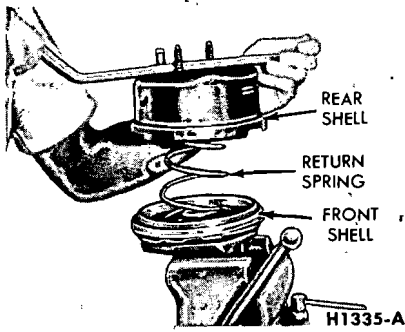

FIG. 37—Separating Booster Shells—Bendix Booster
4. Place the booster in a vise as shown in Fig. 37. Press downward on the rear shell and at the same time, turn it counterclockwise with a flat bar to release it from the front shell. Release the pressure on the rear shell slowly to prevent the dia-